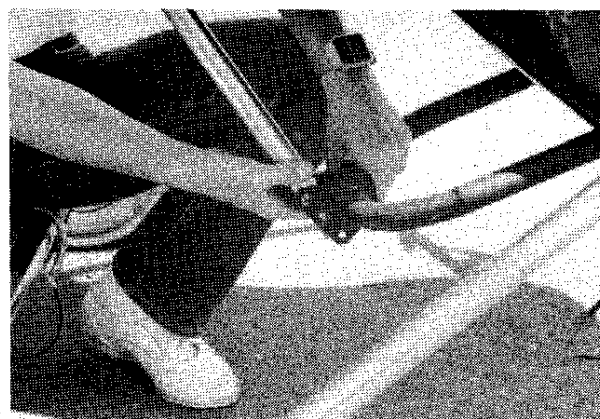

Figure 2.43
- 49.** Attach seat support down tube to seat mount assembly bracket using AN4-17, washer, wingnut and safety ring. Choose an attach point which gives you proper seat adjustment and head clearance. **Figure 2.43**